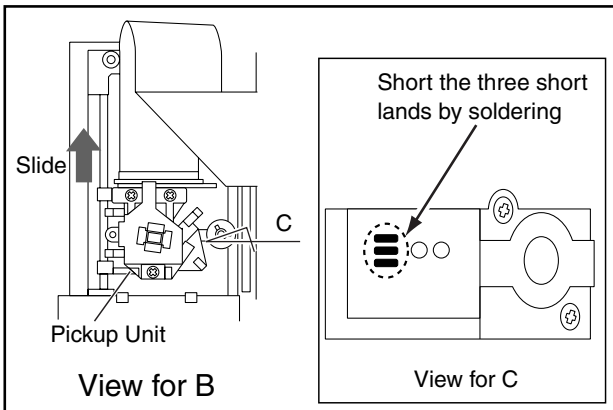

Fig. D5
- 2-1. Slide the pickup unit as shown in Fig. D5.
- 2-2. Short the three short lands of FPC cable with solder before removing the FFC cable (CN101) from it. If you disconnect the FFC cable (CN101), the laser diode of pickup will be destroyed. (Fig. D5)
- 2-3. Disconnect Connector (CN401). Remove three Screws (S-5) and lift the DVD Main CBA Unit. (Fig. D5)
CAUTION 3: When reassembling, confirm the FFC cable (CN101) is connected completely. Then remove the solder from the three short lands of FPC cable. (Fig. D5)